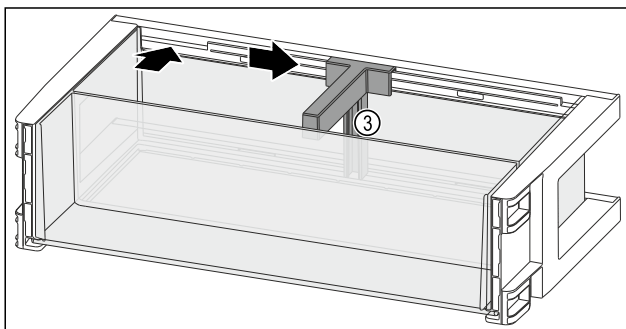

Fig. 115
- ▶ Insert the bottle holder Fig. 115 (3) in the recess.
- ▶ Push the bottle holder Fig. 115 (3) to the desired position to the side.